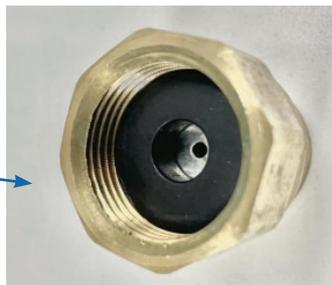

Fig. 3.17B. Left Side view of inserted flow control disc and
3.18B. The reducer assembly should look as shown in Fig. 3.17B and Fig 3.17C below after inserting the disc and gasket.